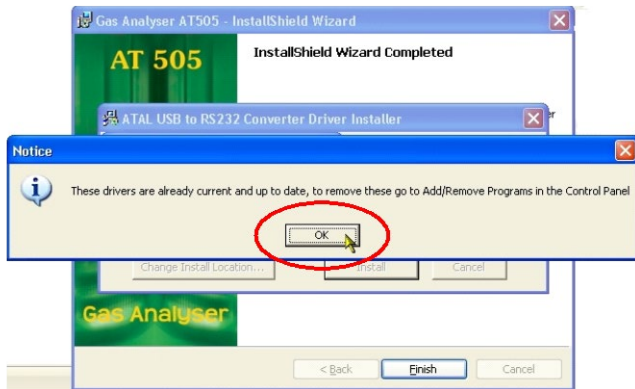

Fig. 66 – The result of a search for old drivers (in this case the drivers are up-to-date)
- b) **If up-to-date drivers are detected**, the information about their presence will be displayed (see Fig. 66) and the Gas Analyser installation will be complete.